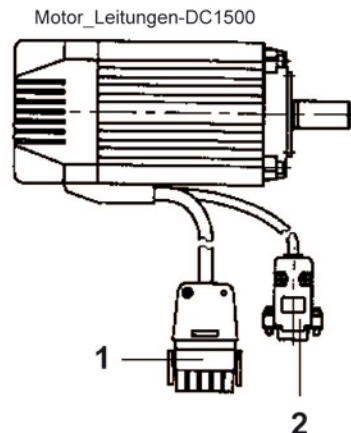

Fig. 2
- Lay out cable 1 of the motor and insert the plug into socket B41 of the control (Fig. 1 + Fig. 2).
- Lay out cable 2 of the motor and insert the plug into socket B2 of the control and fasten the screws (Fig. 1 + Fig. 2).
- Lay out set-point adjuster cable and insert the plug into socket B80 of the control and fasten the screws (Fig. 2).